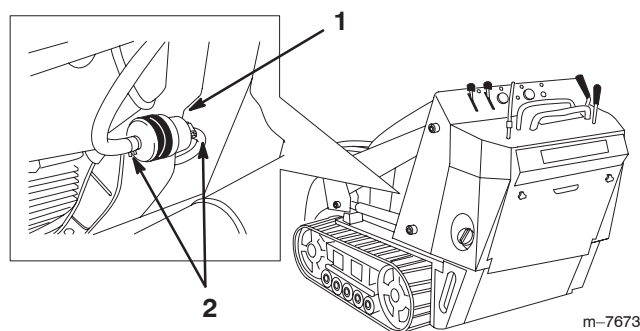

Figure 46
4. Clamp the fuel lines on both sides of the fuel filter (Fig. 46).
5. Squeeze the ends of the hose clamps together and slide them away from the filter (Fig. 46).